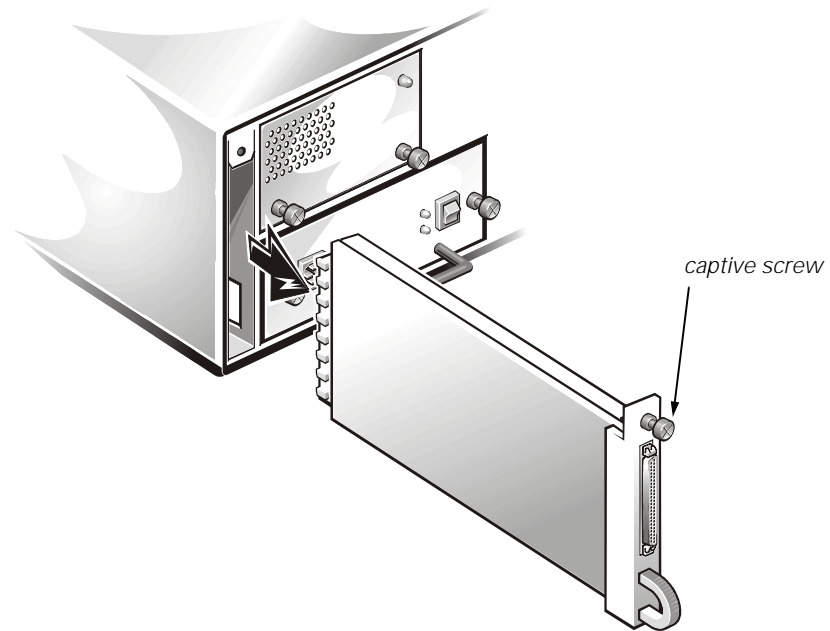

Figure 7. Enclosure Services Module Removal
2. Grasp the handle on the enclosure services module and pull it from the module bay (see Figure 7).